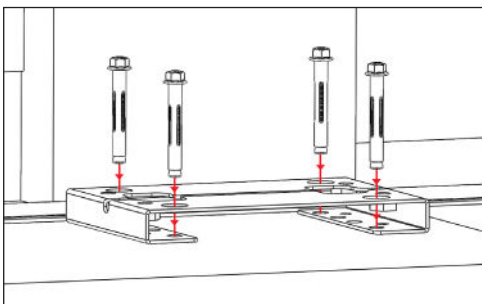

Fig 9
- Fit motor mounting plate back into place and fit and tighten anchor bolts (as per figures 9 and 10).